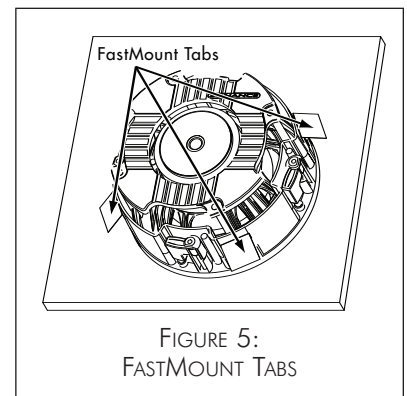

FIGURE 5:
- The FastMount tabs will prevent the speaker from falling out of the mounting hole, allowing the installer to let go of the speaker to pick-up tools or other items (*Figure 5*).